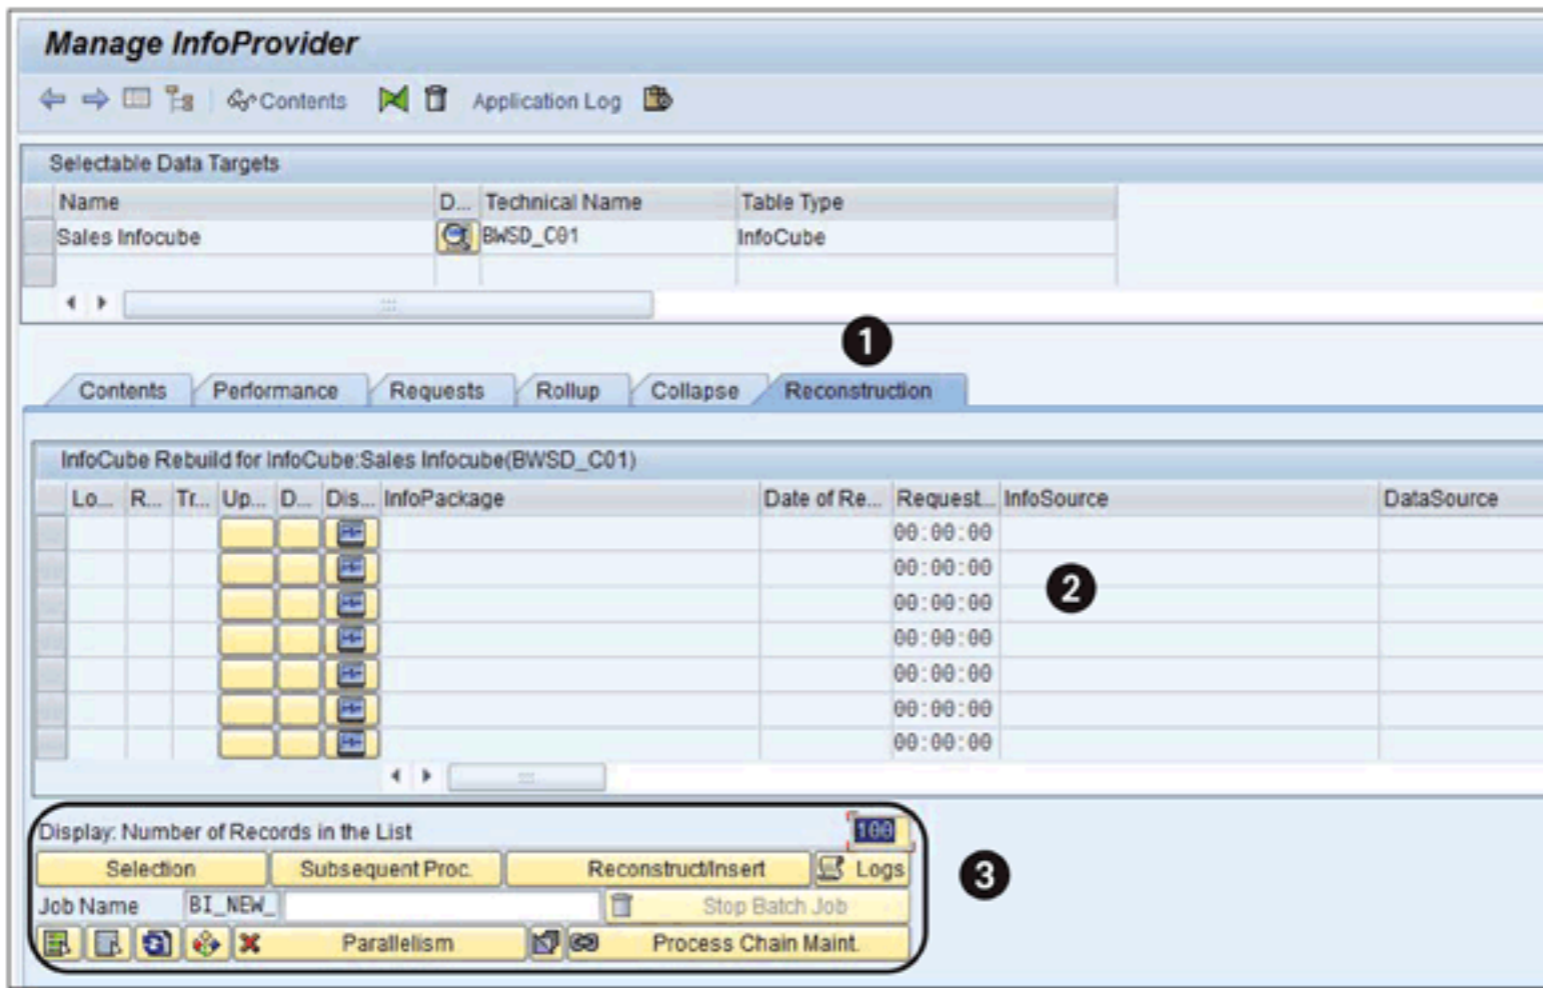

Figure 14.18 Reconstruction Tab for InfoCube Administration
The RECONSTRUCTION tab (❶ of Figure 14.18) in the INFOPROVIDER MAINTENANCE screen of an InfoCube offers exactly the same options and functions as in a DSO. As a reminder, this tab is relevant for those data targets that use ETL processes of SAP NetWeaver BW 3.x. It isn't relevant for ETL elements such as the DTP process.